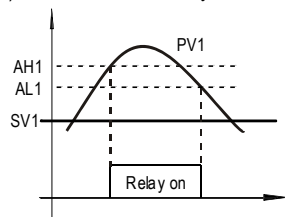

Figure 6. Absolute high alarm on J1.
- 2). When AH > AL, relay is set as high limit alarm (see Figure 6).